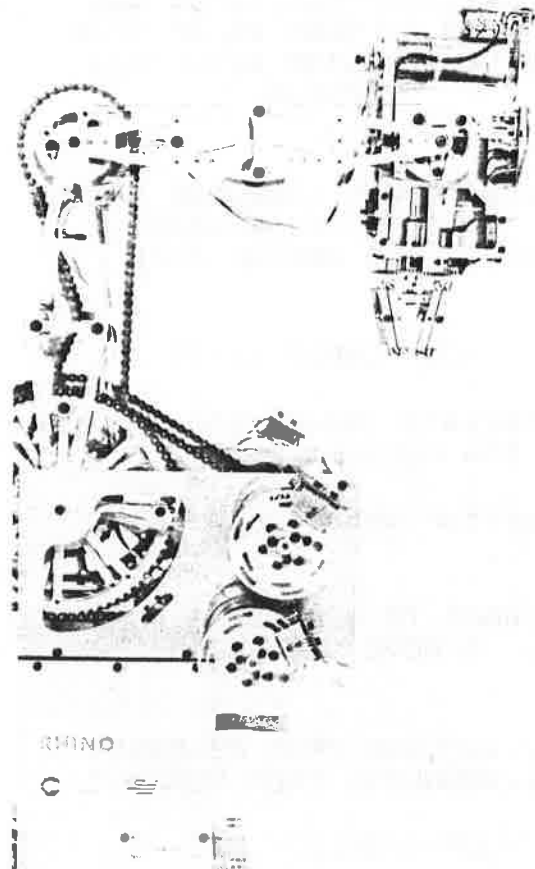

Figure 12.1 XR position after move sequence.
3. Using the skills you learned in Labs 10 and 11, use the teach pendant to write a short program. This program will have the robot rotate its base 90 degrees in a clockwise direction, and bend over backwards as shown in Figure 12.1. Remember to press the ENTER key after each movement of the robot!